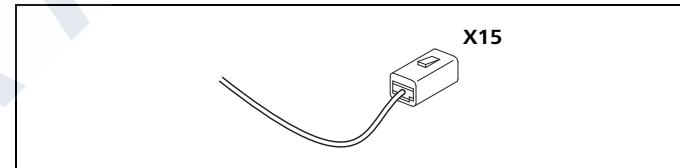

Fig. 49 Connector for CO2 calibration or diagnostics, see wiring diagram
- Use X15 connector for CO2 calibration (only for Webasto service workshops). See Fig. 49.